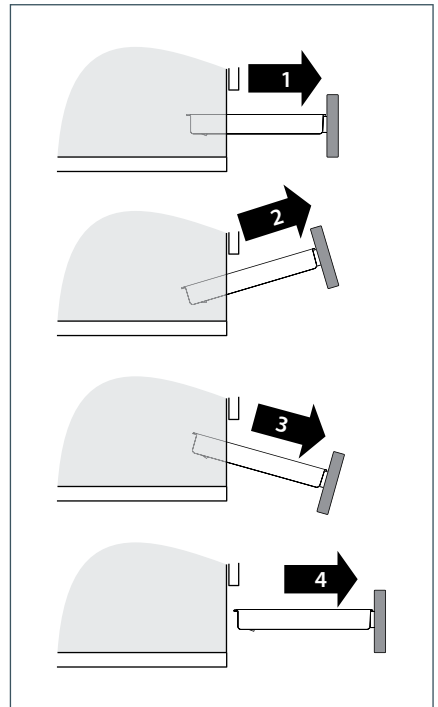

Fig.65 Removing the drawer
- To remove the drawer, proceed as per Fig. 65.